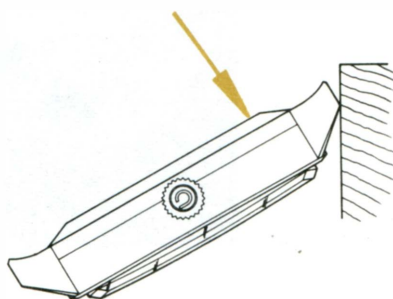

Fig. 8
(9) Mount the bezel
- a. Hold the case center body with the bezel placed in position with both hands and place your thumbs on the case back. Place the lug of the bezel on a working desk and mount the bezel by pressing firmly (Fig. 8). Then fasten the opposite side under the same procedures.